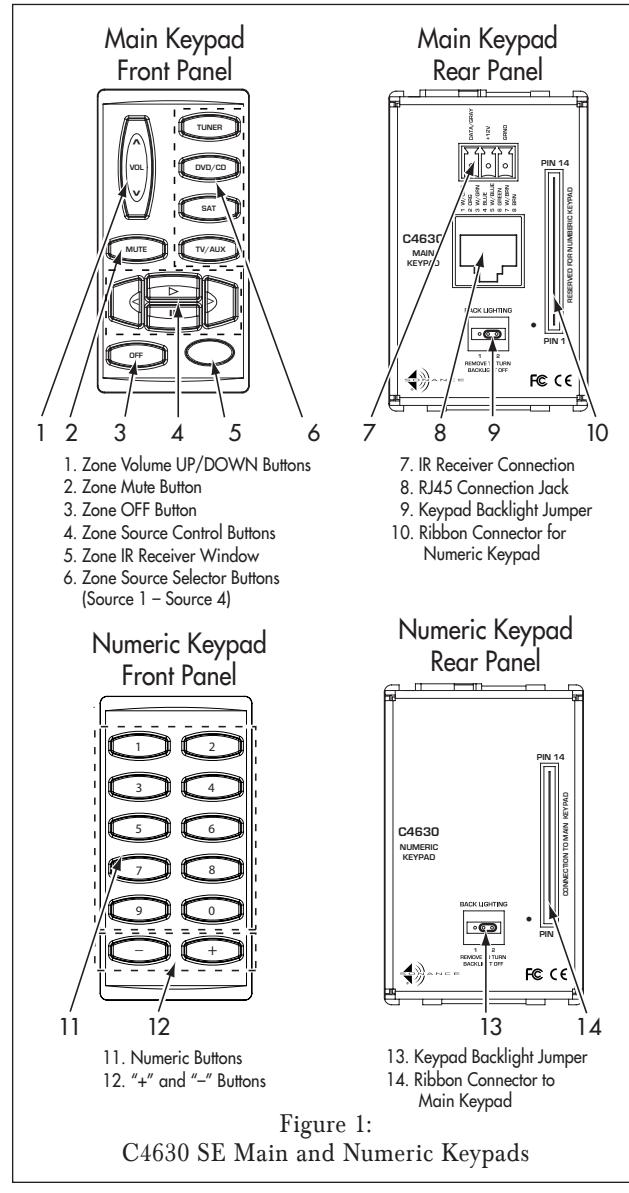
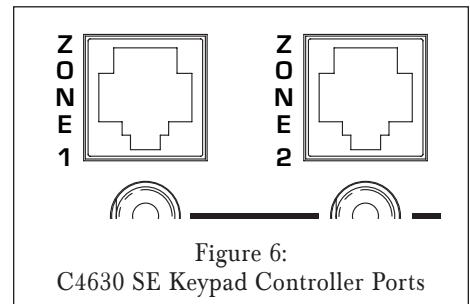

Figure 1:
Figure 6:
C4630 SE Main Keypad (see Figure 1)
C4630 SE Numeric Keypad (see *Figure 1*, on page 1)
4. Connect the CAT5/RJ45 cable to the RJ45 Connection Jack on the back of the Main Keypad (see Figure 1, on page 1) and to the zone's Keypad Controller Port on the C4630 SE (see Figure 6).